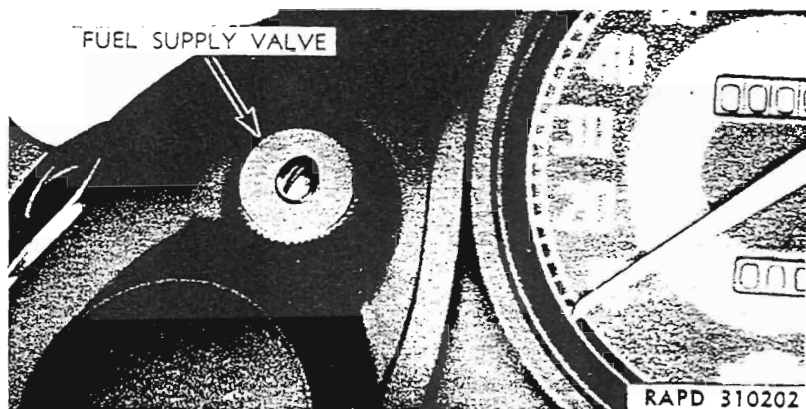

Figure 5—Fuel Supply Valve
b. **Gasoline Valve** (figs. 5 and 6). Gasoline valve is located in left tank, forward. Valve is closed by turning to the right, finger tight. Turning to left opens valve. Valve is in normal operating position
(2) See that gasoline shut-off valve is open (fig. 5).